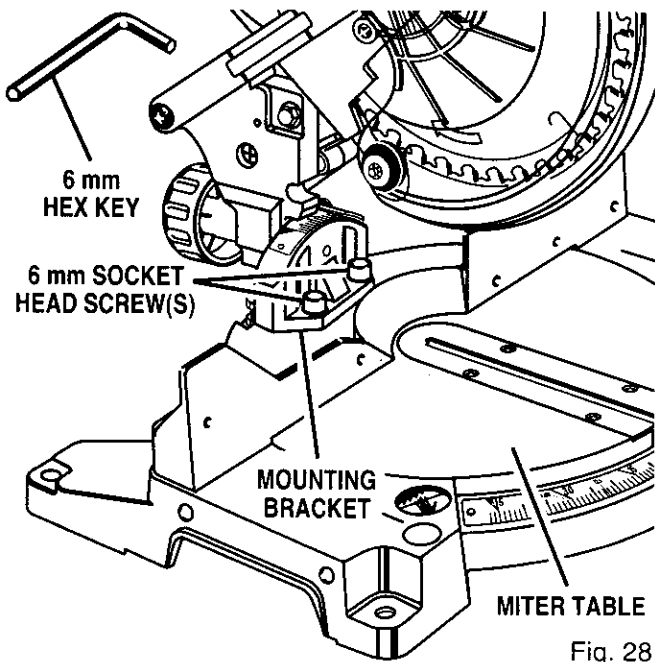

Fig. 28
- Using the 6 mm hex key provided, loosen the socket head screws that secure the mounting bracket to the miter table. See Figure 28.